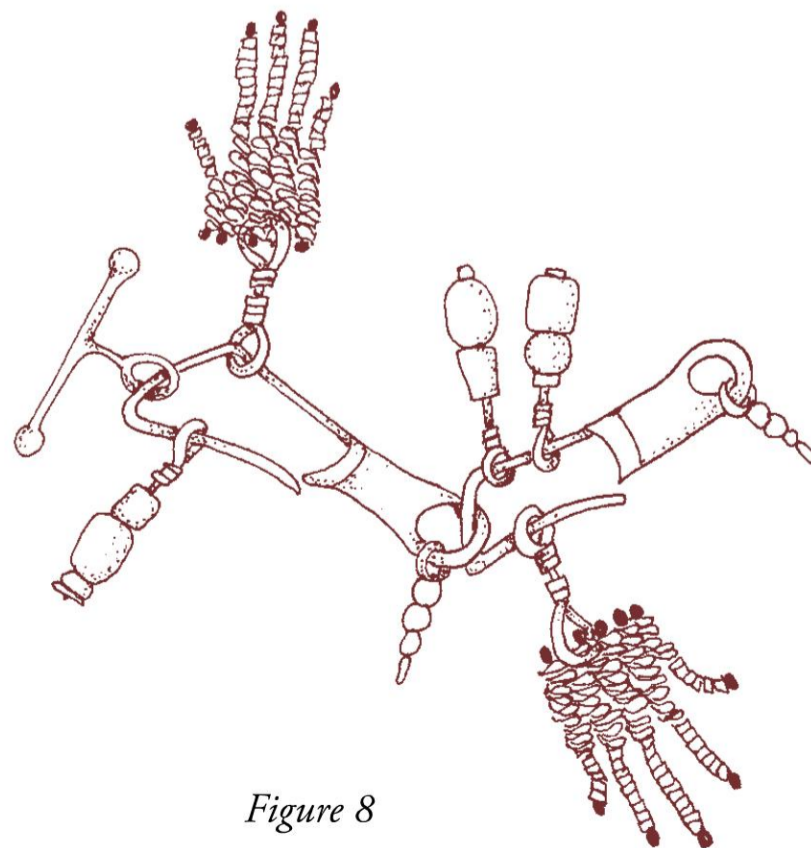

Figure 8
**14** Open the next fishing swivel. Alternate by threading on two beaded head pins first, followed by hooking this swivel into the back side of the first swivel and ending with threading on the second hand before closing. Each fishing swivel has a small dangle out the back side of it. Leave that hanging. Always hook into the big hole in the back part of the swivel. Alternate back and forth with the hands and bangles into the swivels (see figure 8). It balances the bracelet better.